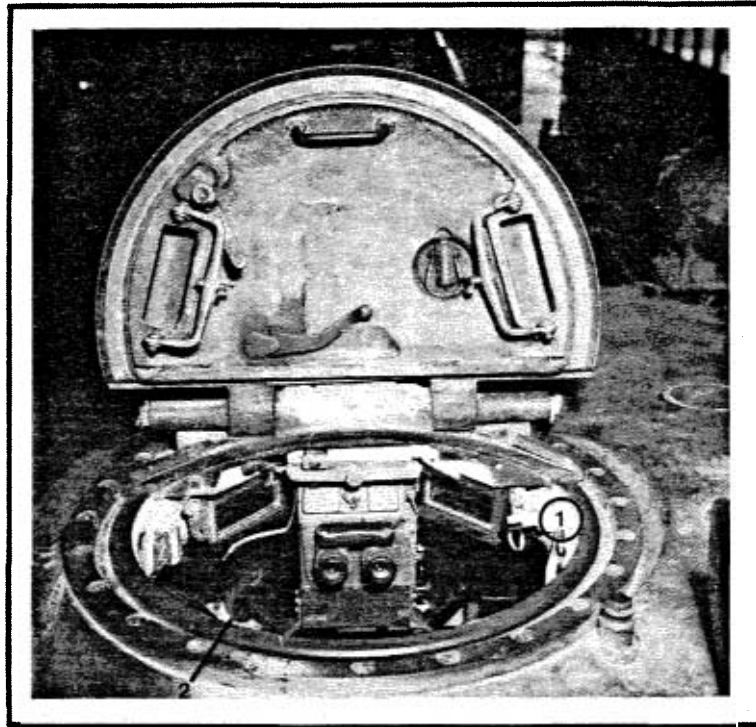

FIG. 3-102. TKN IN HATCH
(4) Tank Commander's Traverse Override. The TC has the capability to override the gunner's turret traversing control. This override is accomplished with the use of the TC's TKN-3 target designate sight (Fig. 3-102) mounted in his hatch. To use the override:
(c) Unlock the TC's cupola (Fig. 3-102).
(e) Depress button on left hand grip (Fig. 3-102). Turret will slew at maximum speed to align with TC's sight picture. Release the button when the gun is generally aligned with the TKN-3. Do not continue to depress the button after the turret is aligned with the TKN-3.